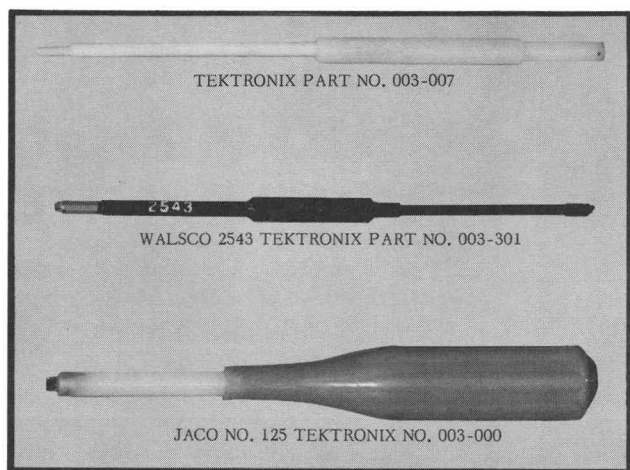

Fig. 6-1. Handtools necessary for calibrating the Type RM16 Oscilloscope.
8. Insulated alignment tools. See Fig. 6-1.